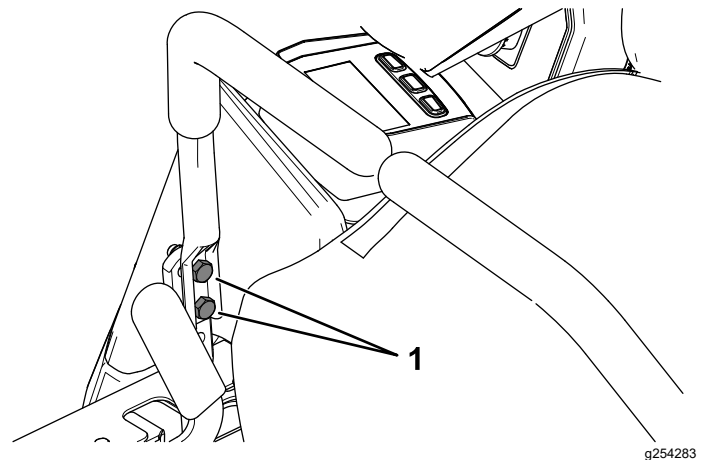

Figure 58
8. If alignment is needed, loosen the 2 motion-control lever mounting bolts on the misaligned side (Figure 58).
10. Tighten the 2 motion-control lever mounting bolts (Figure 58).